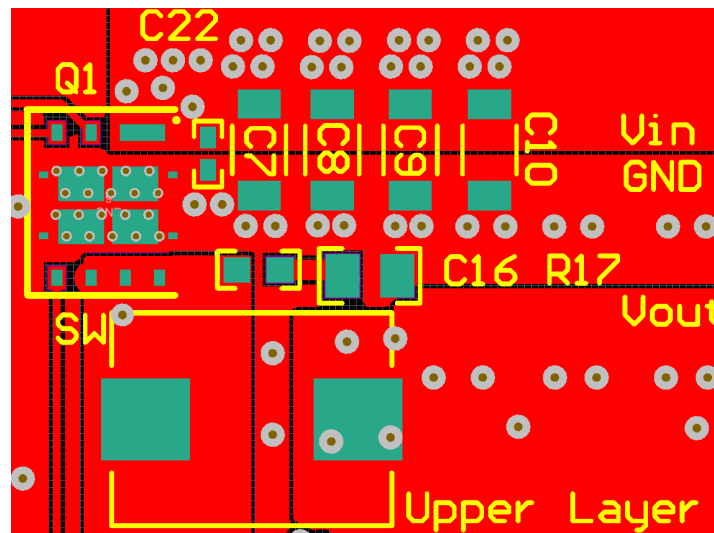
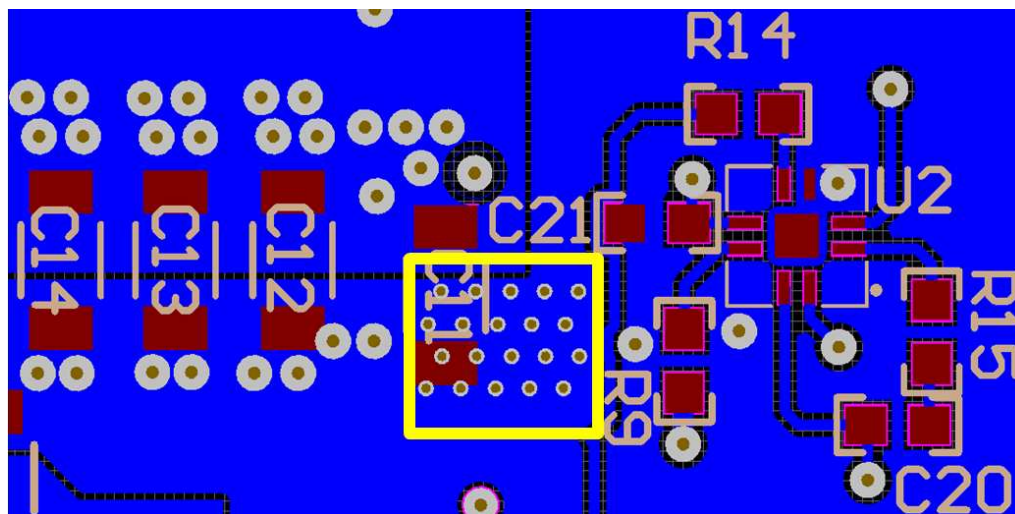

Figure 33. Recommended PCB Layout (Top Down View)
Figure 34. Recommended PCB Layout (Bottom View) ⁽²⁾
- The placement of the input capacitors relative to the power block's VIN and PGND pins should have the highest priority during the component placement routine. It is critical to minimize these node lengths. As such, ceramic input capacitors need to be placed as close as possible to the VIN and PGND pins (see Figure 33 and Figure 34). It is recommended that one 3.3-nF (or similar), 0402, 50-V ceramic capacitor be placed on the top side of the board as close as possible to VIN and PGND pins. In addition, a minimum of 40 μF of bulk ceramic capacitance should be placed as close as possible to the power block in a design. For high-density design, some of these ceramic capacitors can be placed on the bottom layer of PCB with appropriate number of vias interconnecting both layers.
- The switching node of the output inductor should be placed relatively close to the power block VSW pins. Minimizing the node length between these two components will reduce the PCB conduction losses and actually reduce the switching noise level. In the event the switch node waveform exhibits ringing that reaches undesirable levels, the use of a boost resistor or RC snubber can be an effective way to easily reduce the peak ring level. The recommended boost resistor value will range between 1.0 Ω to 4.7 Ω depending on the output characteristics of driver IC used in conjunction with the power block. The RC snubber values can range from 0.5 Ω to 2.2 Ω for the R and 330 pF to 2200 pF for the C. Please refer to Snubber Circuits: Theory, Design and Application (SLUP100) for more details on how to properly tune the RC snubber values. The RC snubber should be placed as close as possible to the VSW node and PGND (see Figure 33 and Figure 34).⁽¹⁾
(1) Keong W. Kam, David Pommerenke, "EMI Analysis Methods for Synchronous Buck Converter EMI Root Cause Analysis", University of Missouri – Rolla
- Use the smallest drill size allowed in your design. The examples in Figure 33 and Figure 34 use vias with a 10-mil drill hole and a 16-mil capture pad.
(2) The yellow box on Figure 34 signifies an approximate location of the power block on the upper layer.